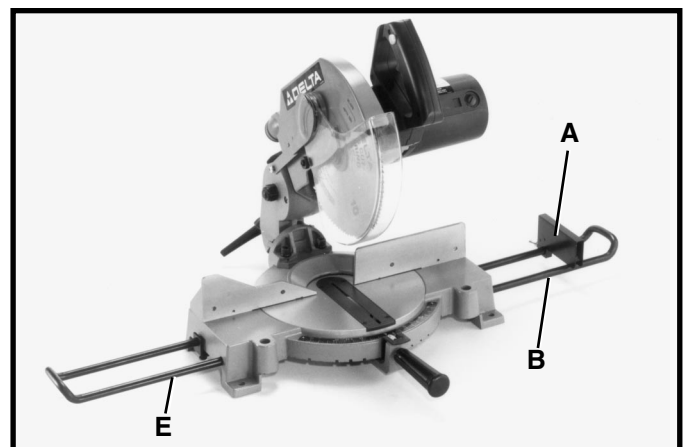

Fig. 8
4. Fig. 8, illustrates both the right and left hand table extensions (B) and (E) assembled to the saw and the stock stop (A) assembled to the right hand table extension.